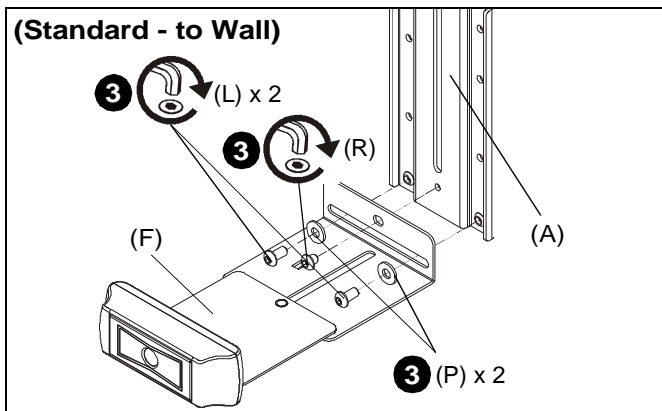

Figure 19
3. **(Standard to wall)** Use two 1/4-20 x 1/2" button head cap screws (L), two large washers (P) and one 1/4-20 x 1/4" button head cap screw (R) to secure camera mount (F) to upright bracket (A). (See Figure 19)